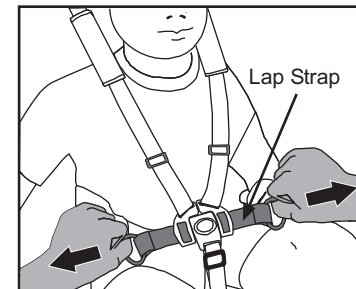

Fig. 19 Tighten Lap Straps.
f. Tighten lap straps. Adjust lap straps to fit snug and be comfortable (Fig. 19).